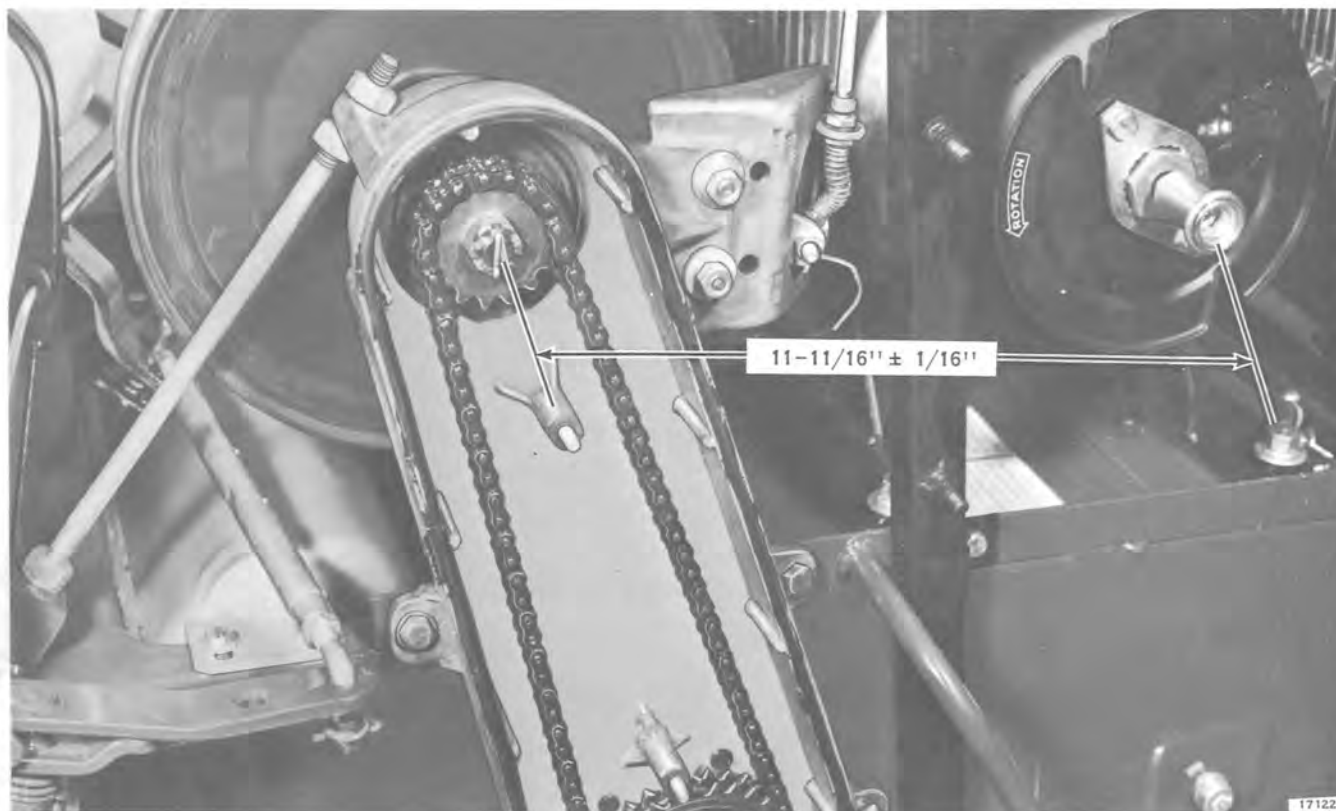

Figure 10-15
24. Check for proper position of secondary drive assembly. Distance from center of primary drive shaft to center of secondary drive (top) sprocket must be $11-11/16'' \pm 1/16''$. See Figure 10-15.